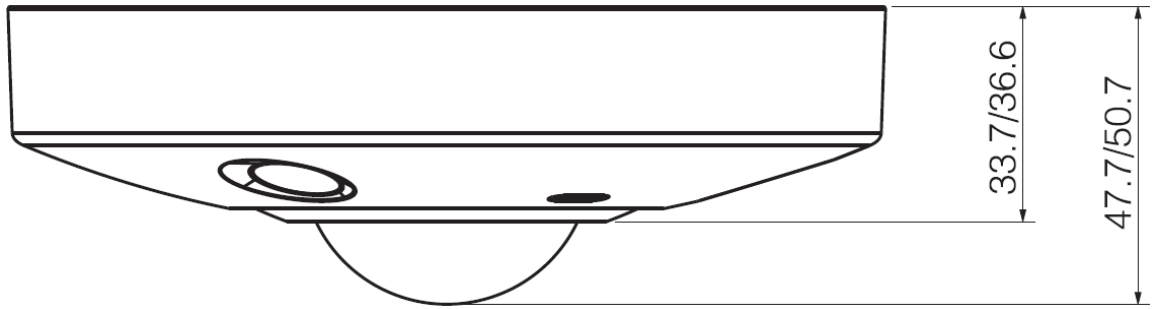
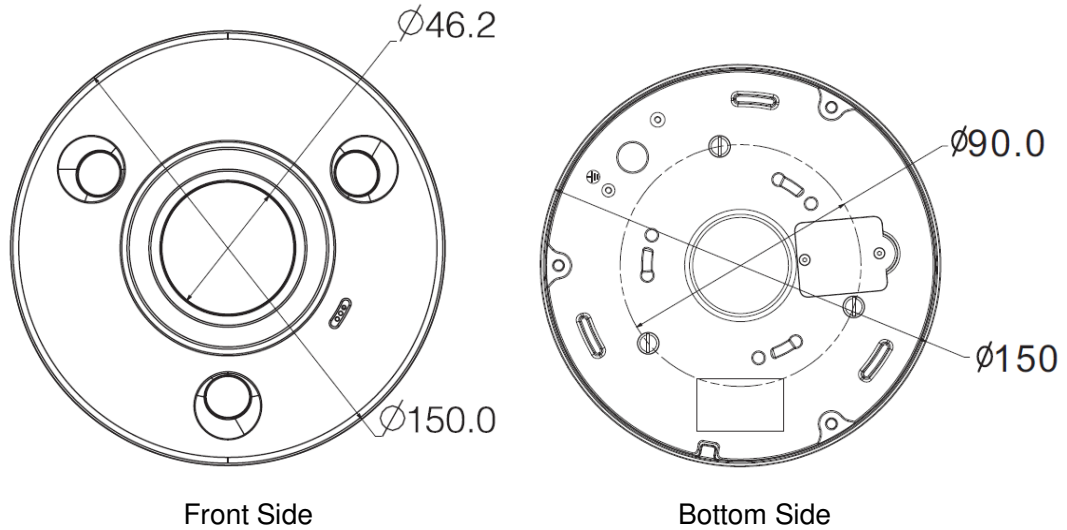

Figure 1-2
Figure 1-3
- You can refer to the following figures for dimension information. The Unit is mm. See Figure 1-2 and Figure 1-3.